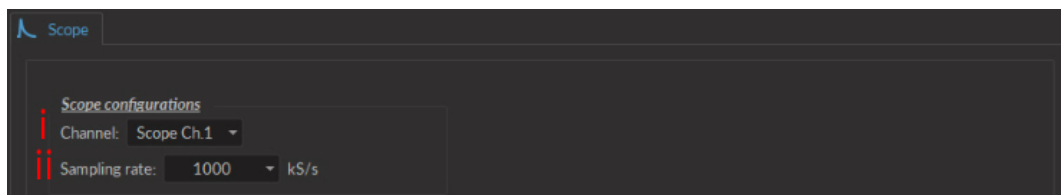

Figure 4.10: Scope
- f) The **Scope** mode allows the measurement of electrical signal using the driver (Fig. 4.10). The signal is received by the Input BNC of the chosen channel on the light source driver.